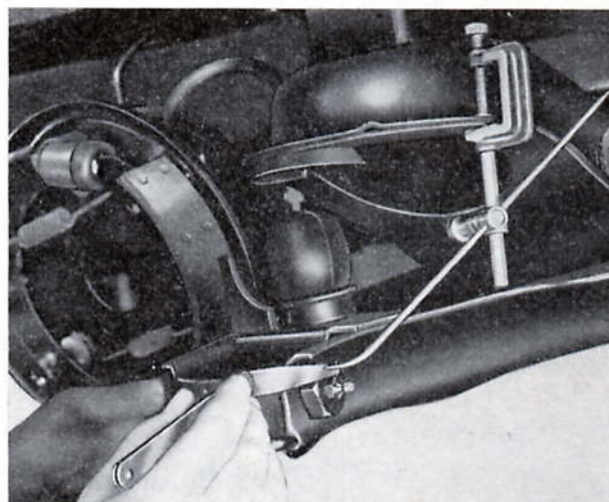

**Fig. K.31.** Standard and oversize screwed bushes. The amount of oversize is .005 in. and applies only to the external threads of the bush
the threads of the shaft and bushes which can be overcome by installing oversize bushes (Fig. K.31).
threads of the shaft and bushes which can be overcome by installing oversize bushes (Fig. K.31).
8. Finally tighten the bushes to the specified torque. If it is found that the distance between the outer edge of the king pin bush and the inner face of the arm is affected before the bushes tighten to the specified torque, this will indicate that there is end loading on the threads of the shaft and bushes which can be overcome by installing oversize bushes (Fig. K.31).